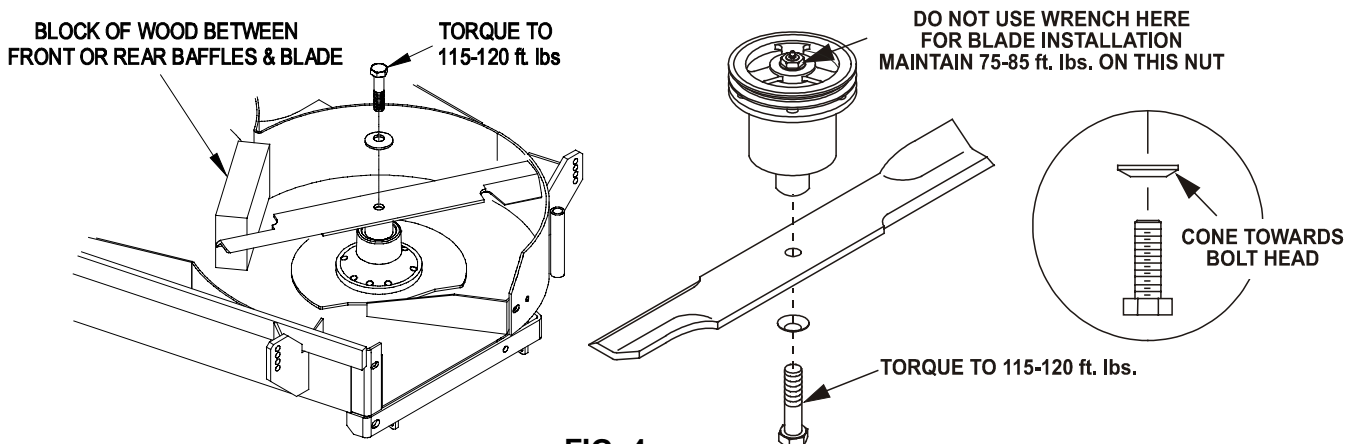

FIG. 4
- d) Re-install the blades (if they were removed) by placing a block of wood between the front or rear baffles and the blade then torque the blade bolts to 115-120 ft. lbs. Be sure the spring disk washer cone is installed toward the bolt head. (See Figure 4).